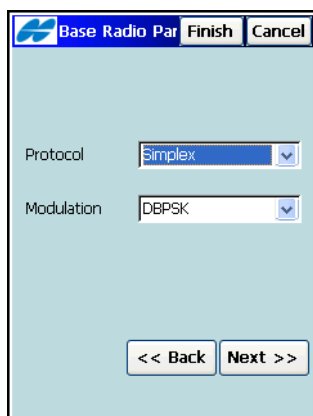

Figure 3-13. Parameters for Digital UHF Modems
- For Digital UHF Modems – *Internal GR-3 Digital UHF, Internal HiPer Digital UHF, TRL-2 and TRL-35 External Digital UHF*. The **Next** button on the **Base Radio** screen opens the **Base Radio Parameters** screen (see Figure 3-13 on page 3-16).
For a Digital UHF Modem: Internal GR-3 Digital UHF, Internal HiPer Digital UHF, TRL-2 and TRL-35 External Digital UHF the screen contains the following parameters (Figure 3-13 on page 3-16):